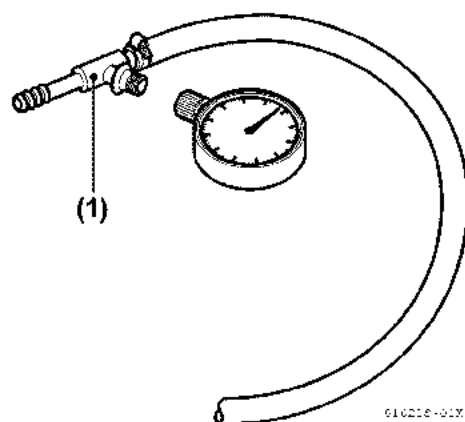

Figure 6-5
1. Attach a suitable fuel pressure gauge to a tee joint, and connect a short length of hose to one of the remaining two legs of the tee (Figure 6-5, (1)).